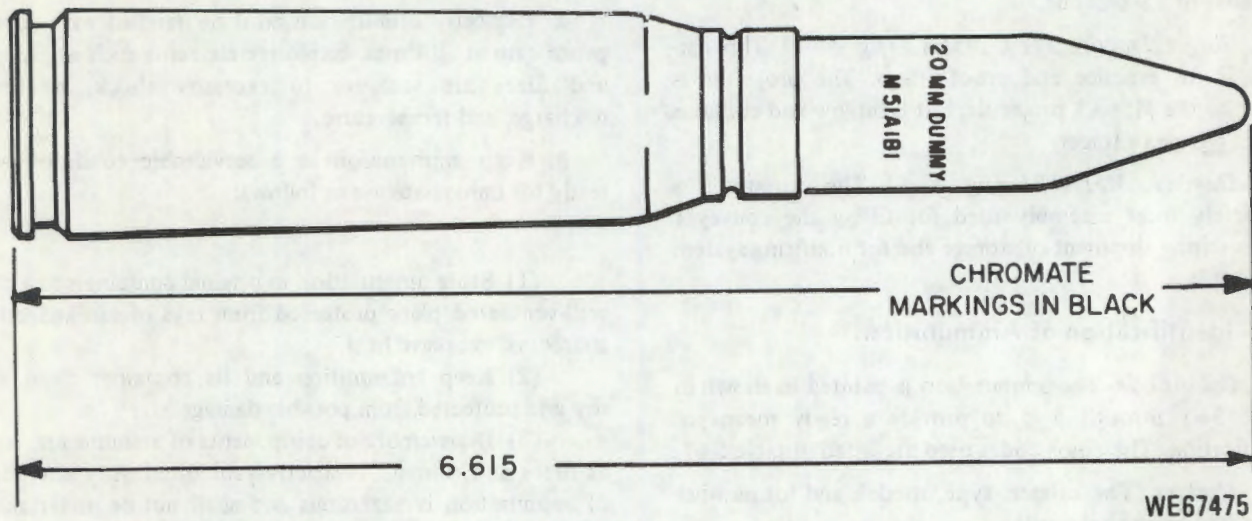

Figure 5-5. Marking of dummy M51A1B1 cartridge.
*e. Dummy, M51A1B1 (fig. 5-5).* The dummy is a completely inert assembly used for filling the conveyor system during shipment or storage and for nonfiring system checkout.